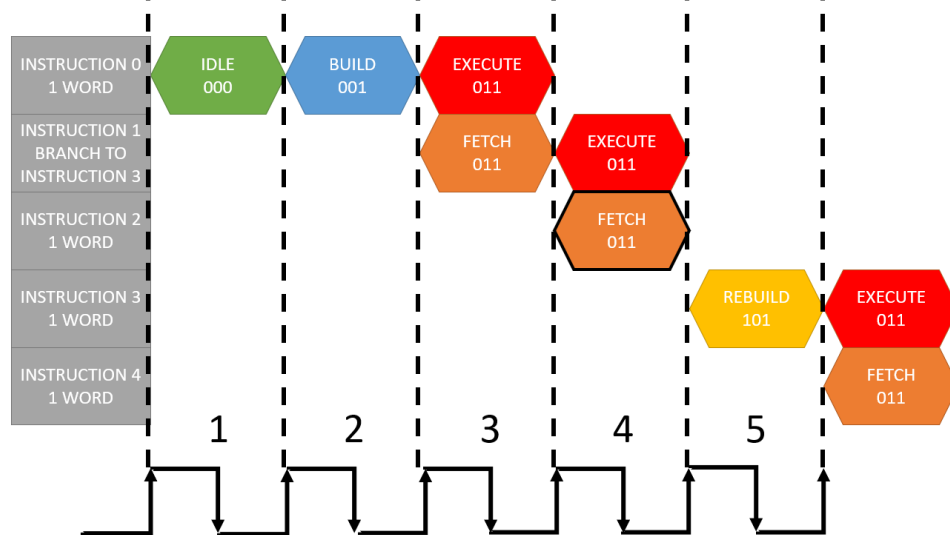

Figure 6: Timing diagram for a sub-program, which includes a branch instruction. But the branch condition, if any, is satisfied.
- **Branch State (101):** Consider the timing diagram shown in Figure 6.
As before, at the end of the third clock cycle, instruction 0 has been executed and instruction 1, which is a branch instruction, has entered IR. The processor stays in the Fetch/Execute during the fourth clock cycle, during which the processor detects that the branch instruction condition is satisfied. The PC during this clock cycle is now pointing at instruction 2, which is the incorrect instruction. The conditional branch instruction points to instruction 3 as the next instruction. The processor will now enter the Branch state (101, also called Rebuild state as seen in Figure 6) during the fifth clock cycle. PC is updated to point to instruction 3, which enters the IR at the end of the fifth clock cycle. The Branch State operates exactly the same as the Build state. The processor will always return to the Fetch/Execute state after the Rebuild state. It is impossible to remain in the branch state for consecutive clock cycles. Figure 6, also, demonstrates the concept of branch penalty encountered in pipelined systems, and for WIMPAVR processor's 2 stage pipeline the branch penalty is one clock cycle.